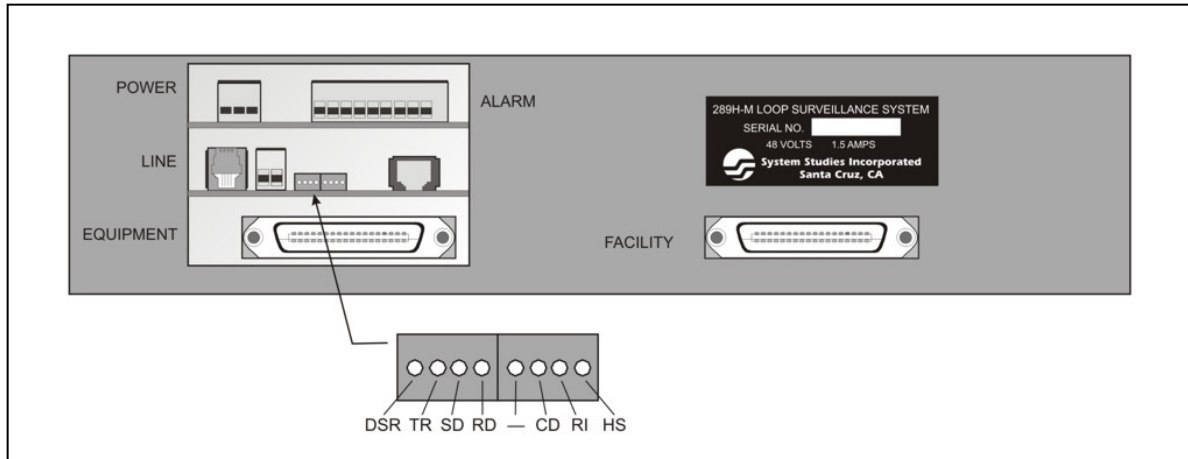

FIGURE A1-2: 289H CONTROLLER CARD MODEM LIGHTS
4. Are the modem indicator LEDs for HS, TR, and DSR on the Controller Card on? These LEDs, along with several others, are visible on the 289H-M's middle card. On the older Controller Card, the LEDs are located to the right of the line connector module (as viewed from the back of the chassis—see FIGURE A1-2). On the newer card, the modem LEDs are located closer to the front of the card, and a visual key, identifying each LED, is silkscreened on the card's front edge.
5. Does the RI light on the Controller Card blink at each ring? This LED is the second one from the far right of this middle card, when viewing the chassis from the back (FIGURE A1-2). Using a standard phone, dial into the 289H-M directly.